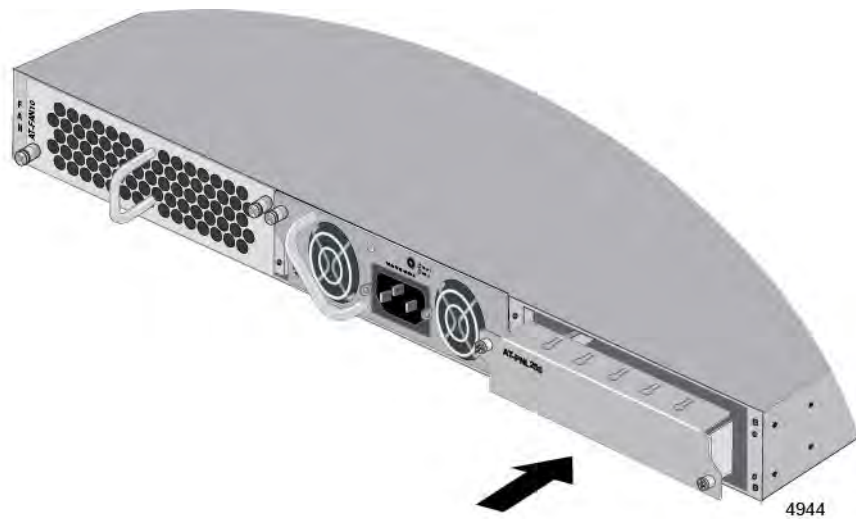

Figure 32. Installing a Blank Panel on a Power Supply Slot
1. Position the appropriate blank panel over the empty power supply slot. Use the PNL800/1200 Blank Panel included in the accessory kit if the switch has only one PWR800 or PWR1200 Power Supply. Use the PNL250 Blank Panel if the switch has one PWR150, PWR150R, PWR250, or PWR250-80 Power Supply. Refer to Figure 32.